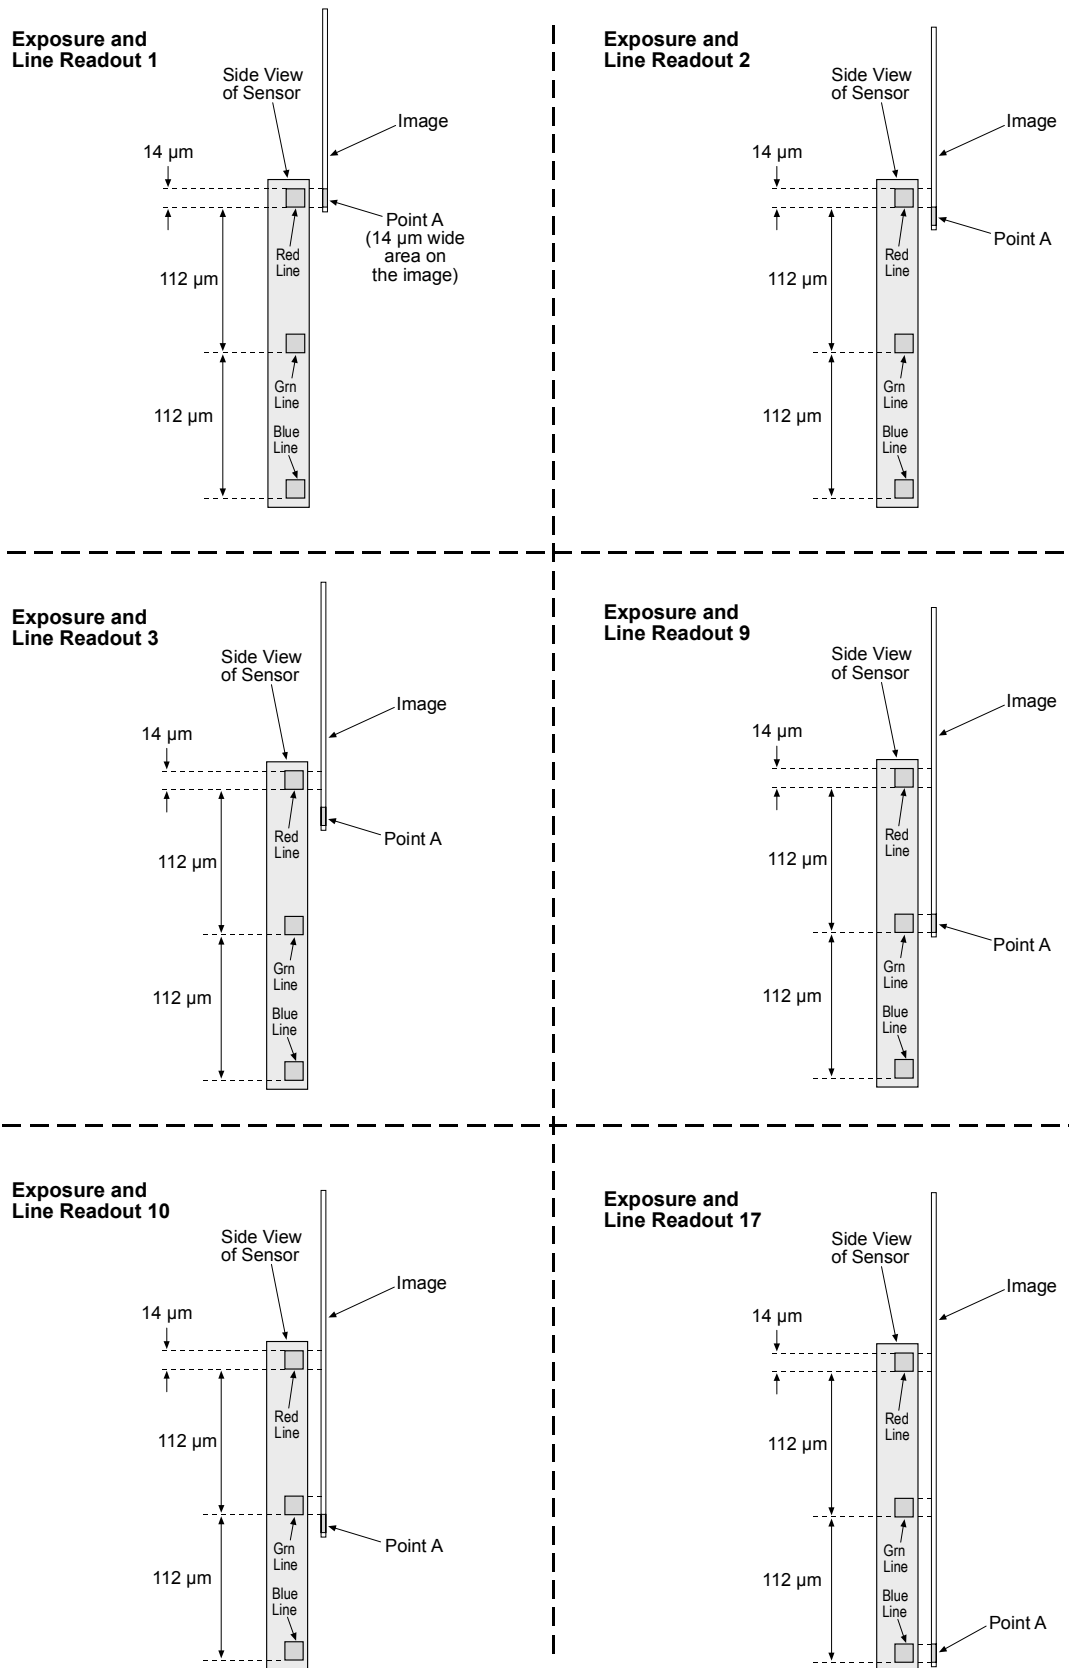

Figure 2-13: Spatial Correction
In order to better understand the concept of spatial correction, let's consider an example. In our example, we will look at a single $14\text{ }\mu\text{m}$ wide point on the image passing the sensor and we will consider what must be done to capture full color information for that point. In our example we will refer to this as Point A. Our example will assume that the camera has been set up so that an exposure and line readout occurs each time Point A moves $14\text{ }\mu\text{m}$. Figure 2-13 shows illustrations of our example and you should refer to this figure as you read through the text below.
- To begin, assume that Point A is in front of the red line of pixels and that the camera has just completed an exposure and line read out. As you can see in Figure 2-13, on exposure/readout 1, the camera captured and transmitted the red data for point A.
- Now assume that Point A has moved $14\text{ }\mu\text{m}$ and that the camera has performed a second exposure/readout. As Figure 2-13 shows, Point A is not in front of a line. So the data captured and transmitted on this exposure does not apply to Point A.
- Assume that Point A has again moved $14\text{ }\mu\text{m}$ and that the camera has performed a third exposure/readout. As Figure 2-13 shows, Point A is still not in front of a line. So again, the data captured and transmitted on this exposure does not apply to Point A.
- Assume that this exposure and movement process has occurred several more times and that we are now up to exposure number nine. As shown in Figure 2-13, Point A will be positioned in front of the green line of pixels on exposure/readout number nine. On this exposure, the camera will capture and transmit the green data for Point A.
- Now assume that Point A has moved 14 more μm and that the camera has performed a tenth exposure/readout. As you can see in Figure 2-13, Point A is not in front of a line. So the data captured and transmitted on this exposure does not apply to Point A.
- Assume that the exposure and movement process has occurred several more times and that we are now up to exposure number 17. As shown in Figure 2-13, Point A will be positioned in front of blue line of pixels on exposure/readout number 17. On this exposure, the camera will capture and transmit the blue data for Point A.